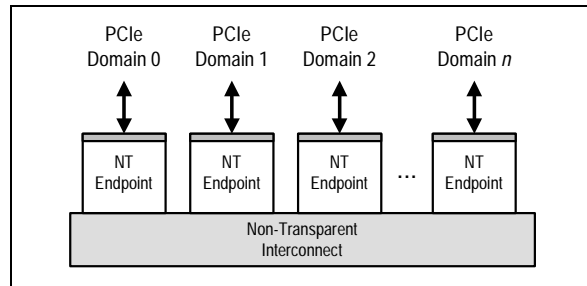

Figure 1.6 Generalized Multi-Port Non-Transparent Interconnect
While maintaining the architectural concepts of the original Digital architecture, the switch extends non-transparent bridging to allow direct non-transparent switching between two or more domains, and between up to 64 masters. As shown in Figure 1.6, the switch allows two or more non-transparent endpoints to directly communicate over a *non-transparent (NT) interconnect*. This extension of non-transparent bridging from two ports to multiple ports parallels the evolution of two-port PCI bridges to multi-port PCI Express switches.